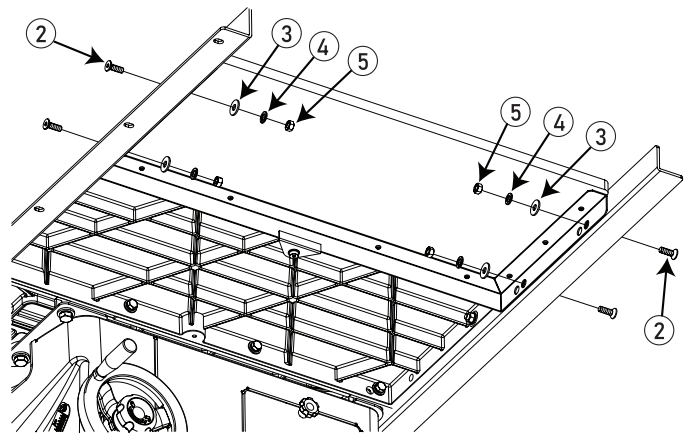

Fig. 10
10. The extension table mounts to the rails with bolts that pass through holes in the rails and extension table. Take four M8x1.25x25 flat-head socket bolts and insert one bolt into each of the remaining holes in the front and rear rails. Place an M8x23x2 washer and an M8 lock washer on the back of each bolt and then thread an M8x1.25 hex nut on each bolt (see Fig. 10). Hand tighten the nuts; do not fully tighten them.